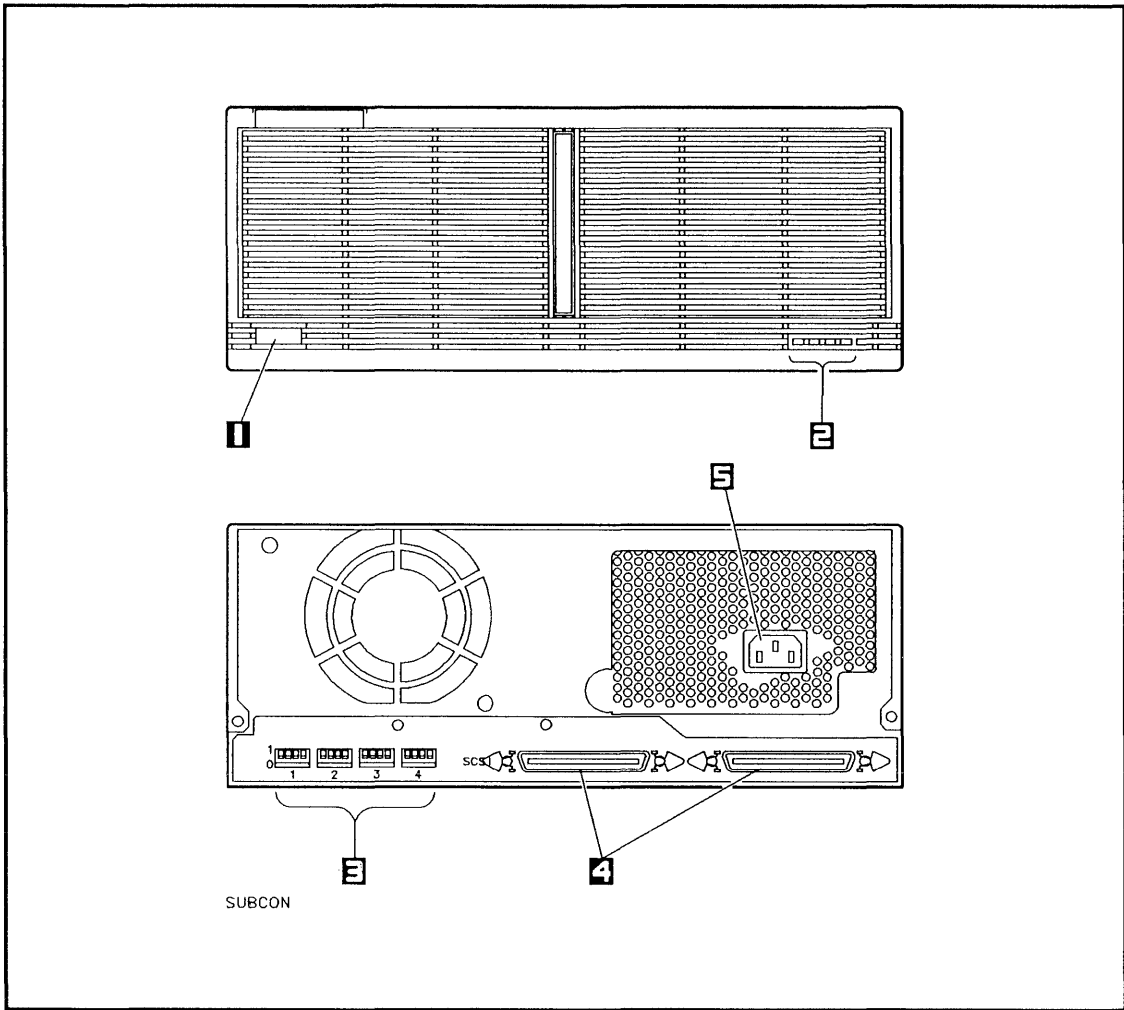

Figure 1-2. Controls and Connectors
See Figure 1-2 for the location of the controls and connectors identified by numbers in this chapter; for example: address switches (3).
The **hard disk drive status indicators** **2** are front panel lights that show the status of the power-on diagnostics and hard disk drive activity. The hard disk drive status indicators located in the lower right-hand corner of the front panel are for hard disk drives only (see Figure 1-2). The first indicator from the left is connected to the hard disk drive in slot 1 (right front), the next indicator is connected to the hard disk drive in slot 2 (right rear), and the third indicator is connected to the hard disk drive in slot 3 (left front). The fourth indicator (on the right) is not used and is therefore always off.